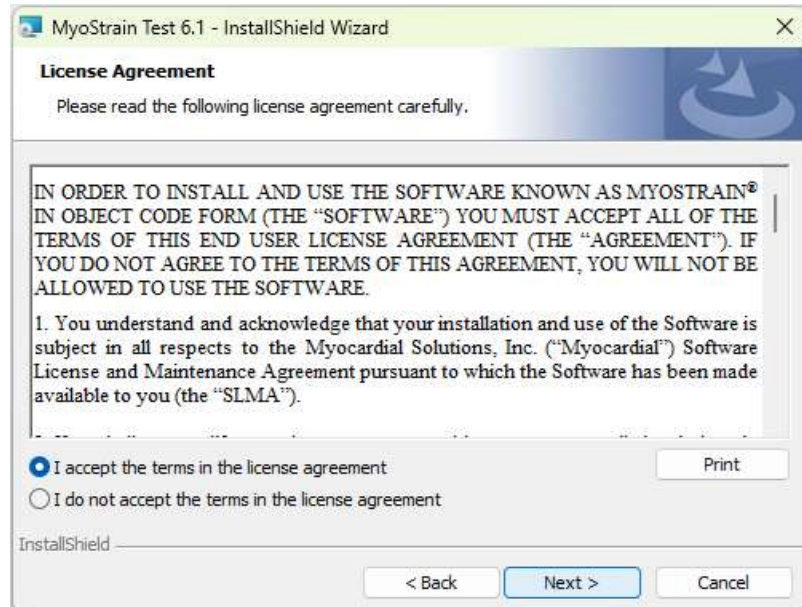

Figure 2-2: End User License Agreement – Accept must be selected to continue.
2. Please read the license agreement, and if you agree select the “I accept the terms in the license agreement” option shown in the second installation window (Figure 2-2).